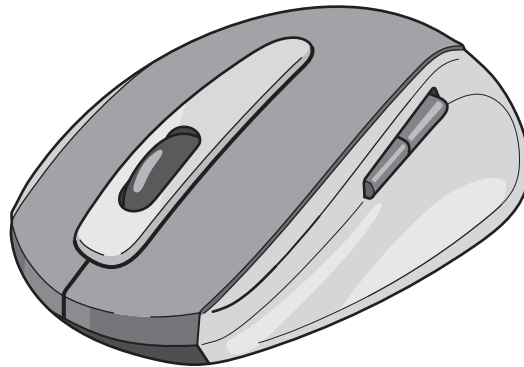

Fig. 1
- 1 Fig. 1 shows an example of a computer mouse.